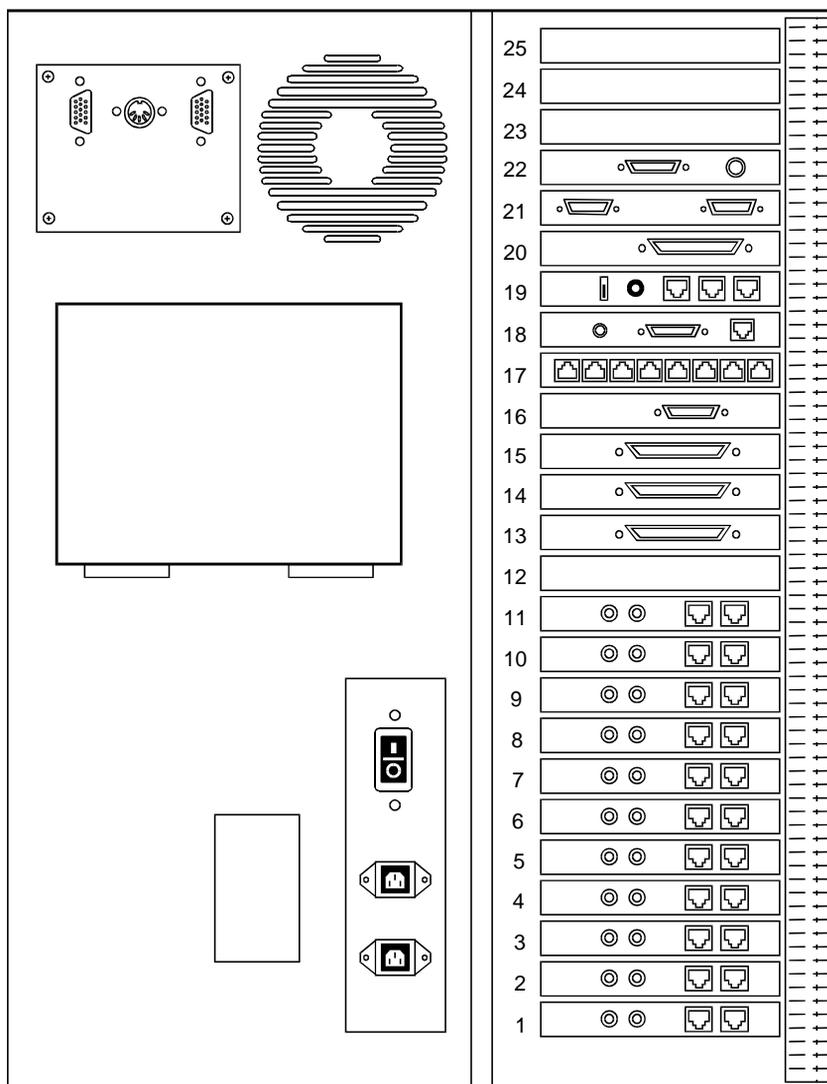

Figure 3-15. Rear View of the MAP/100
2. To perform a cold reboot turn the MAP/100 off by pressing the power button on the rear of the unit (Figure 3-15).
4. Turn the power on by pressing the power button on the rear of the MAP/100 (Figure 3-15).